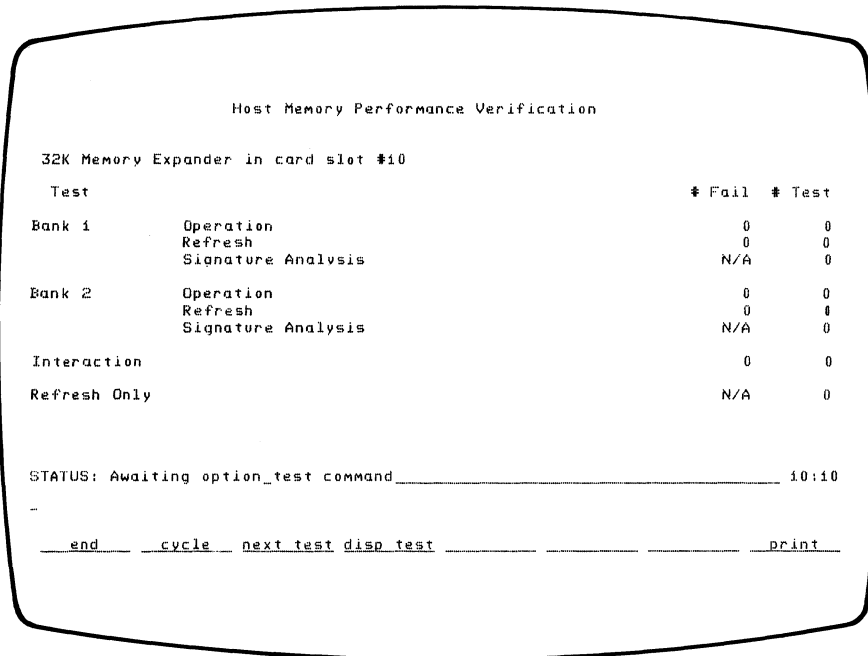

Figure 4-3. Total PV Display
- c. Bank 1 and Bank 2 refer to the upper 16K and lower 16K of the lower 32K locations of memory in RAM under test. See figure 4-3.
end.....terminates test activity and returns display to next higher level. At Total PV Display (Figure 4-3), also resets failure counters to zero.